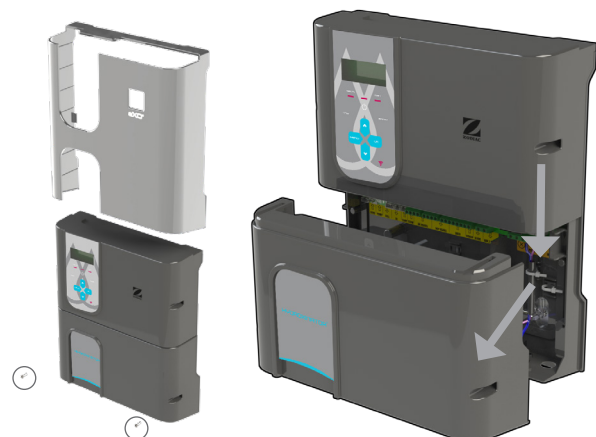

Figure 8. Remove Controller Lower Cover
4. Remove the lower housing by pulling down then out see Figure 8.